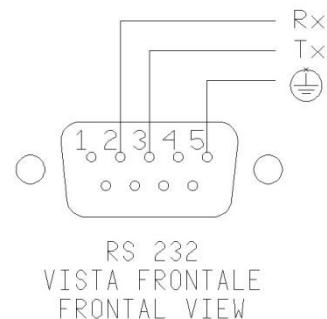

Fig.7
On the front of the calibrator there is a 9 pole socket (5) connected to the thermo-regulator, which enables the calibrator to be completely controlled by a PC (reference to fig.7). The standard adopted RS-232 (contact the technical department for the communication number).